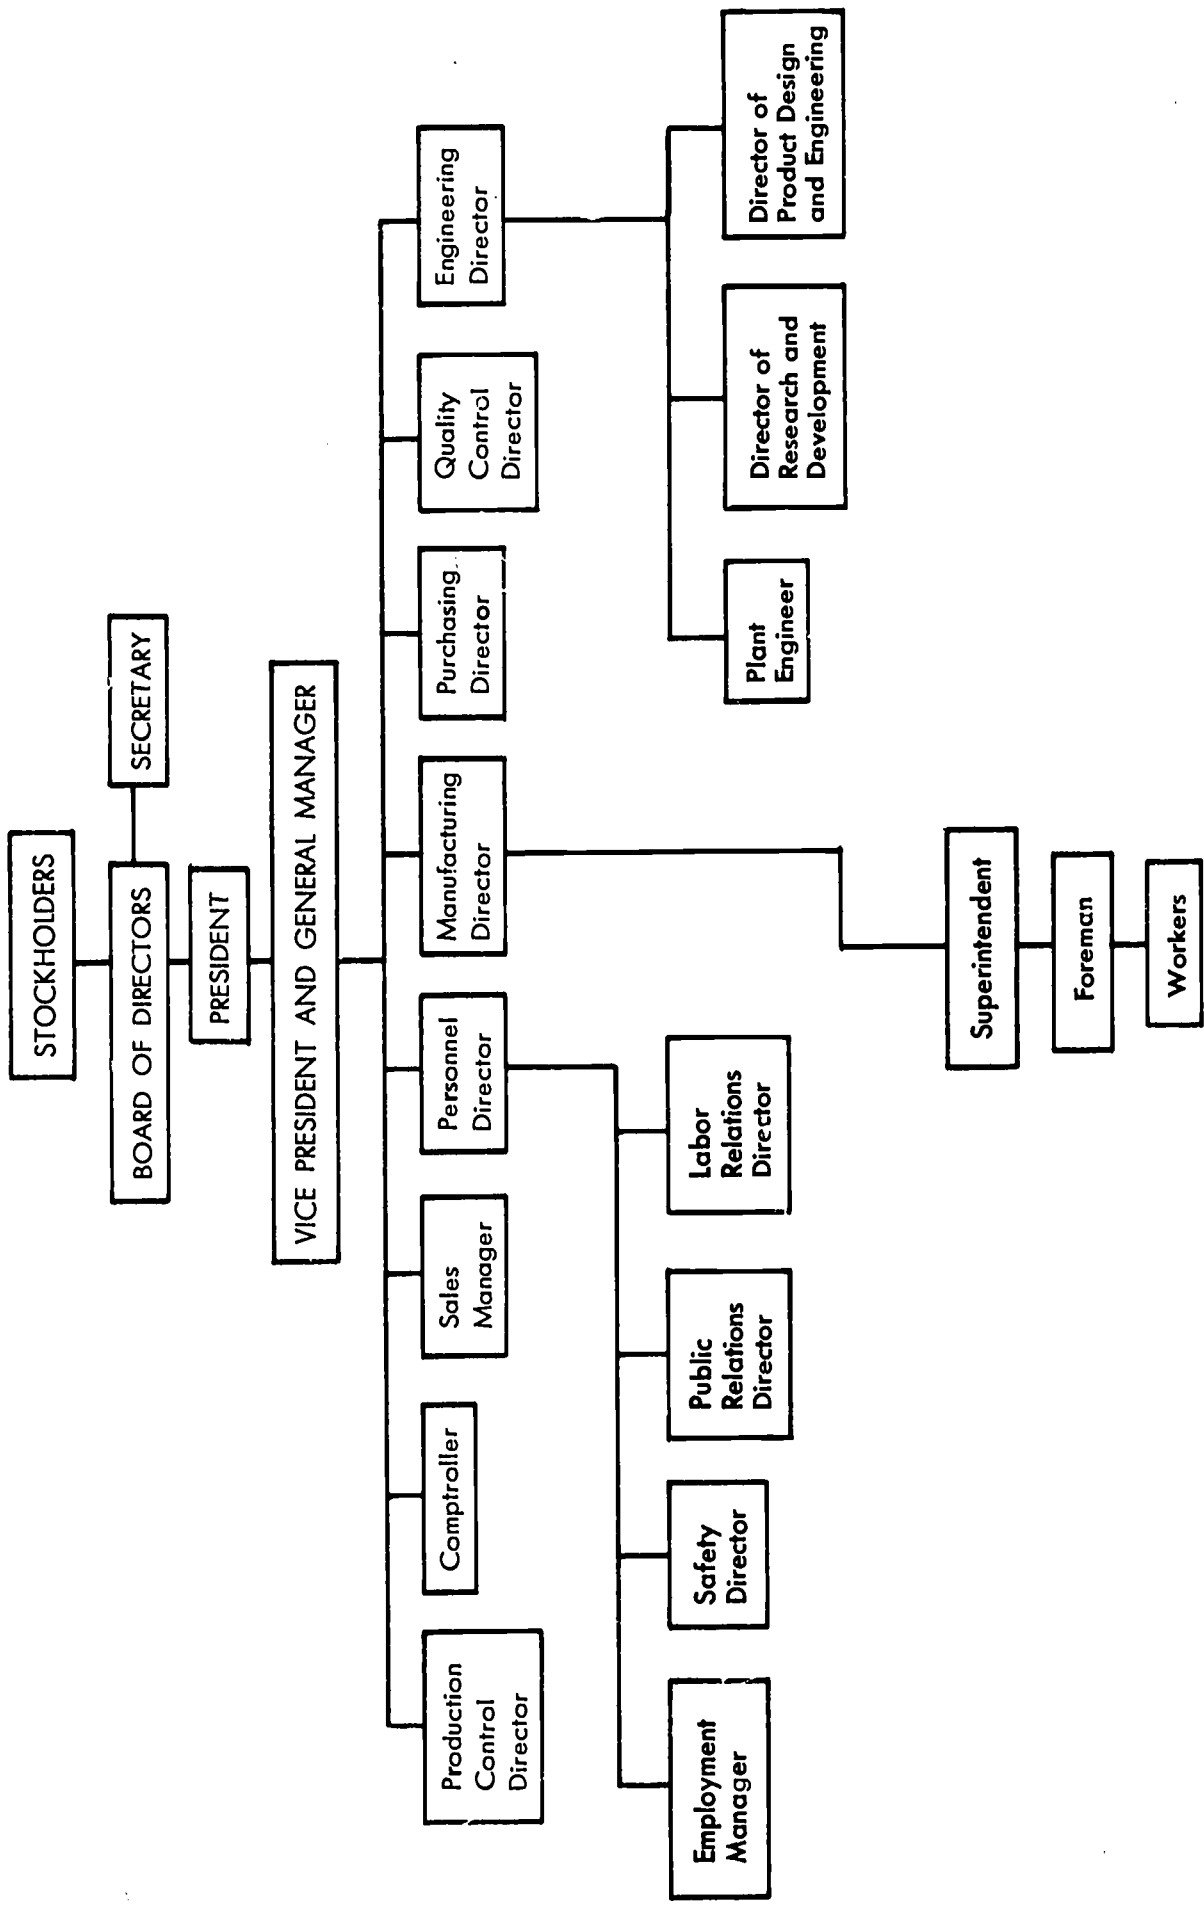

Fig. 30-1. Corporation Structure
3. See Fig. 30-1, *Corporation Structure*, to see where you fit in the corporation.
1. Find your title or position on the Organization Chart, Fig. 30-1, and circle it.